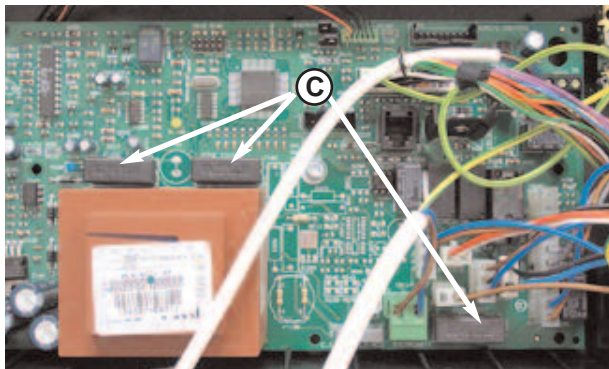

Fig. 18.14
3. Remove the fuse box cover "C" (see Fig. 18.14);